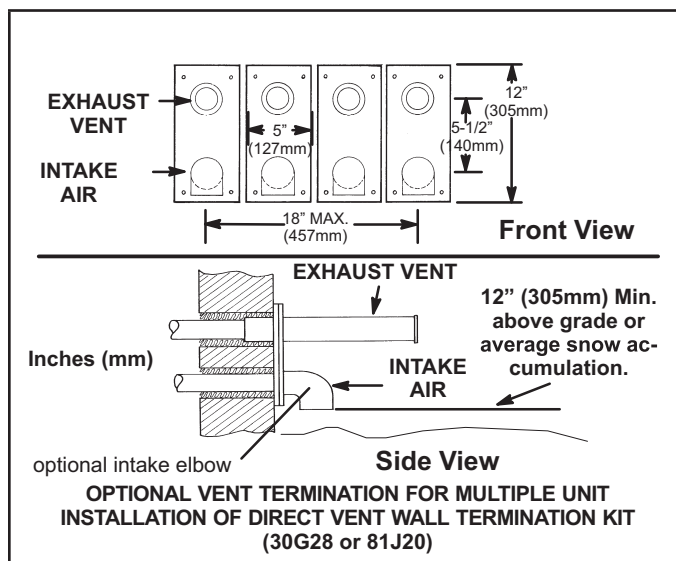

FIGURE 37
- 8 - A multiple furnace installation may use a group of up to four terminations assembled together horizontally, as shown in FIGURE 37.